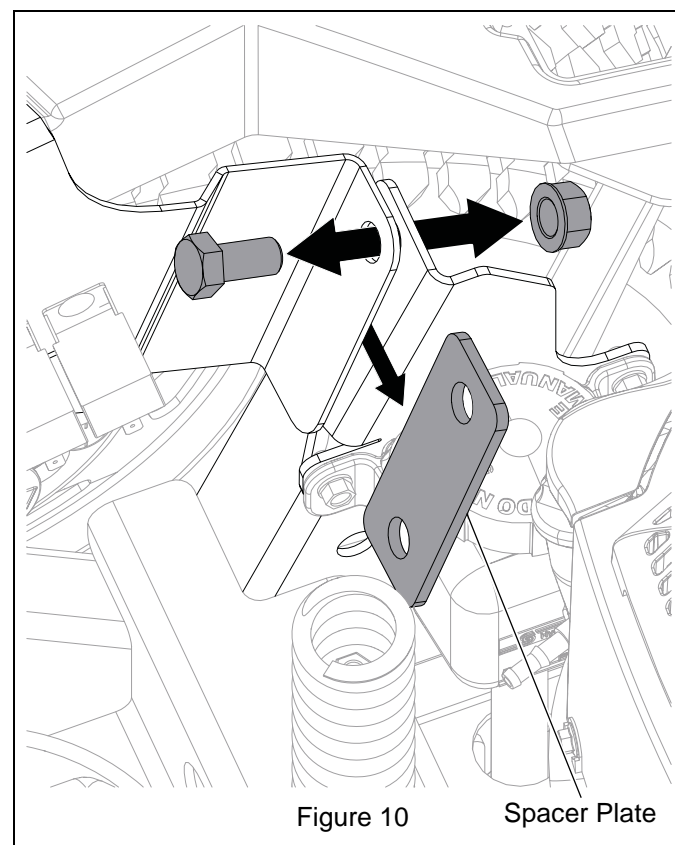

Figure 10
2. Remove 1/2" x 1" bolt and hex nut retaining spacer plate and remove plate. Discard bolt, nut and spacer. See Figure 10.